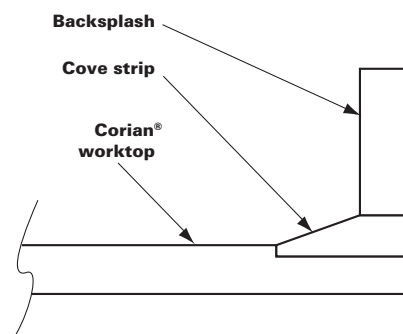

Figure C-1
6. Cove strip: Cut the bevelled cove strip to length. At corners, mitre-cut the strip and dry-fit. The worktop, cove strip and upstand are shown in Figure C-1.
2. Upstand/Low backsplash: The end of one upstand/backsplash piece will need to be rebated as in Step 5 of Section C.1 on the previous page. See Figure C-1. Cut the upstand/backsplash piece oversized to allow for clean-up later. Then follow steps 6 through 9 in Section C.1.